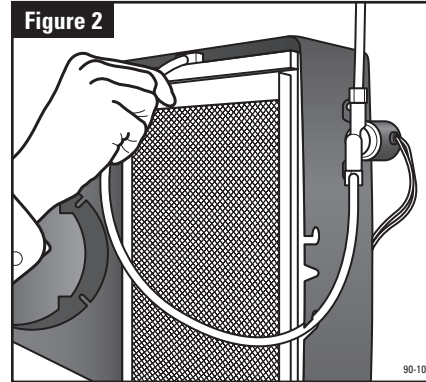

Figure 2
6. Reinstall the evaporative assembly back into the base, with the bottom of the scale control insert (6) sitting firmly in the inside of the drain spud (9). Push the feed tube back into the water distribution tray. (See Figure 2) Put the front cover back on. If the nameplate (11) is upside down, remove it and rotate the nameplate so it is right side up, and snap back into place. Turn damper handle (8) to the open position "WINTER" for the heating season, or closed position "SUMMER" for the cooling season.